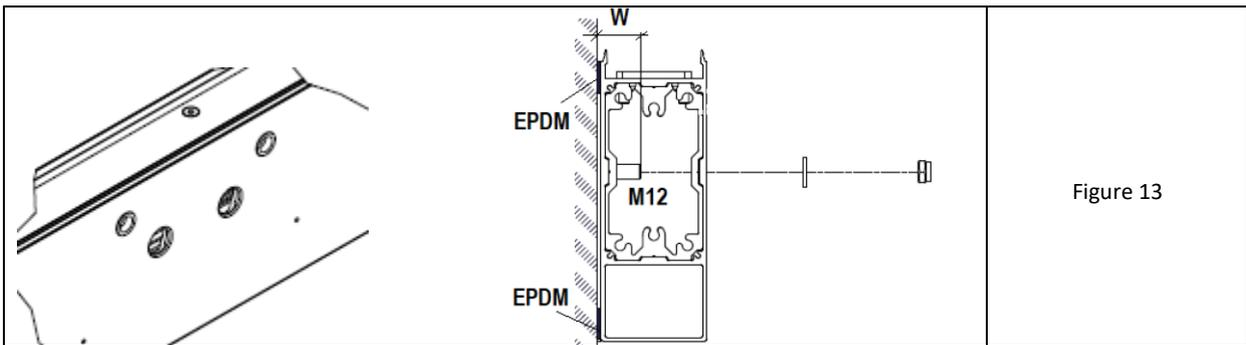
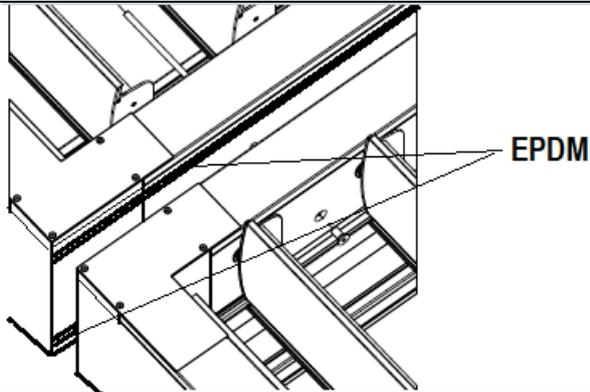

Figure 13
Figure 16
11. On the outer wall of the beams adjacent to the masonry, after degreasing, apply EPDM self-adhesive spacer strips (Fig. 13-right) at its upper and lower edges. This is necessary in order to be able to remove the revision later without damaging it.
12. Place the frame in the target position. At the point where the beam is anchored to the wall, determine the position of the anchors according to the layout of the anchor holes on the rear face of the beam (fig. 13). 2 holes are drilled in each anchor at an axial distance of 100 mm.
13. Install the M12 size anchors (not supplied by SELT) into the substrate, ensuring that they are levelled together and that the axial distances are maintained in accordance with the hole pattern in the beam. Maintain the correct spacing between the anchors and the wall face in the range $W = \text{min. } 35 \text{ and max. } 45 \text{ mm}$ (fig. 13-right).
1. Apply, after degreasing the surface, two strips of EPDM tape to the beam of the integrated pergola frame on the side of the second frame to be added. Stick the strips at the upper and lower edge of the beam. It is recommended to glue the edge of the upper strip below the revision lock (fig. 16 and cross-section in fig. 13)- for later access to the inside of the beam.